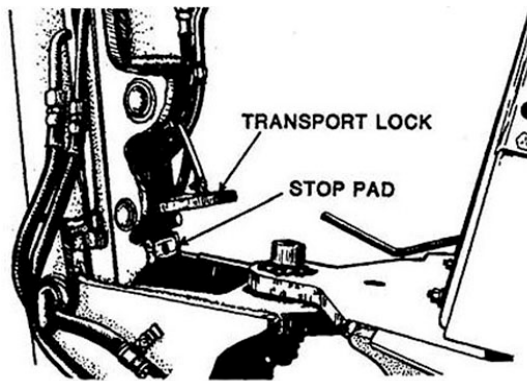

Figure 3-6. Locking boom in place.
3. When the boom reaches the OVER CENTER position (the boom is vertical and all the way into the machine), quickly reverse the control lever to the DOWN position. If you time this properly, the boom will continue to move forward against the stops, and the boom will lock in place (fig. 3-6).